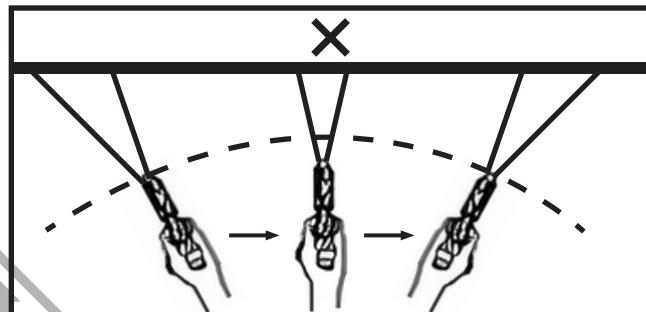
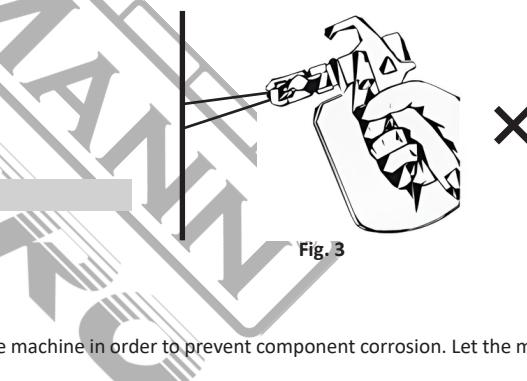

Fig. 2
Fig. 3
- Avoid arcing (fig. 2) or holding the gun at an angle (fig. 3).